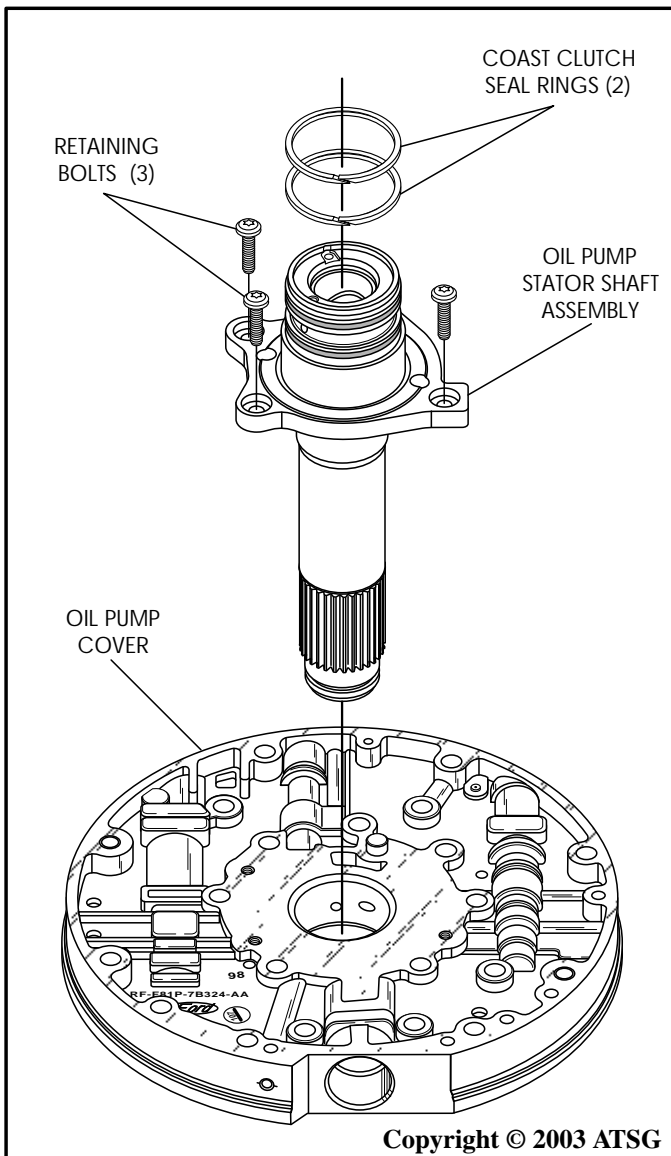

Figure 165
12. Install the stator shaft assembly into the pump cover, as shown in Figure 165, and torque the 3 retaining bolts to 9-11 N·m (80-100 in.lb.), as shown in Figure 166.
13. Install the two coast clutch sealing rings into their grooves in the stator shaft assembly, as shown in Figure 165.